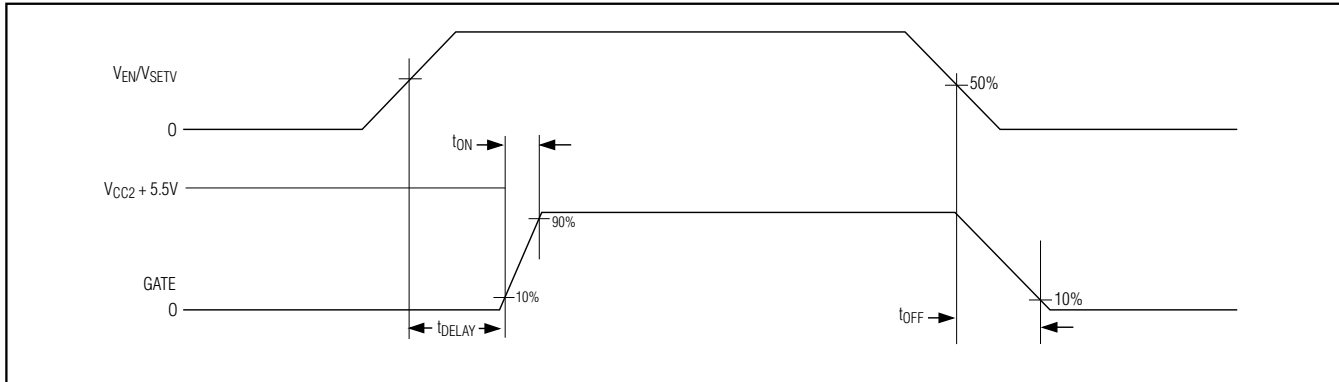

Figure 3. Timing Diagram
The MAX6819 offers a logic-compatible enable input (EN) that allows digital devices to control sequencing. When the TTL/CMOS-compatible EN input is logic-low, the GATE output is low. When the EN input is logic-high (and SETV is above the monitor threshold), the GATE output is enabled after an internally fixed 200ms delay. For a logic-controlled sequencer when voltage monitoring is not desired, connect SETV to V_{CC1} or $V_{\text{CC2}} > 0.62\text{V}$ (Figure 3).